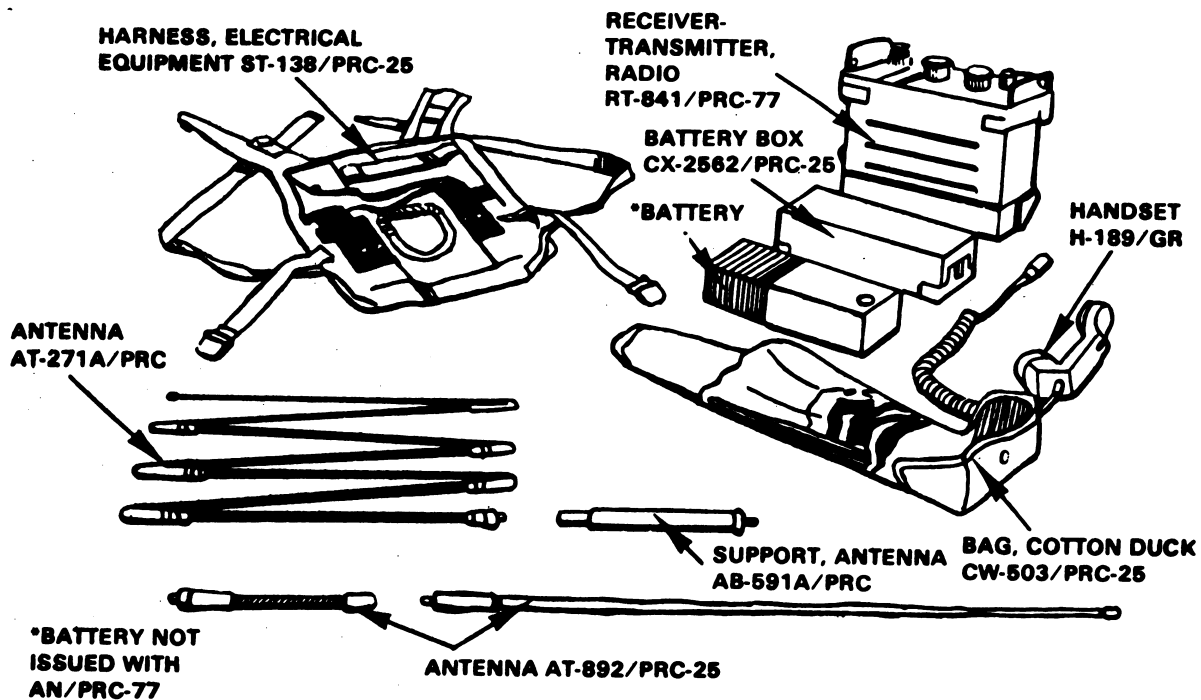

Figure 1. Components.
1. Assembly of Radio Set AN/PRC-77 (fig. 1) (TM 11-5820-667-12, chap 1, pages 1-2 thru 1-5). Inspect radio set to insure that all components are present: